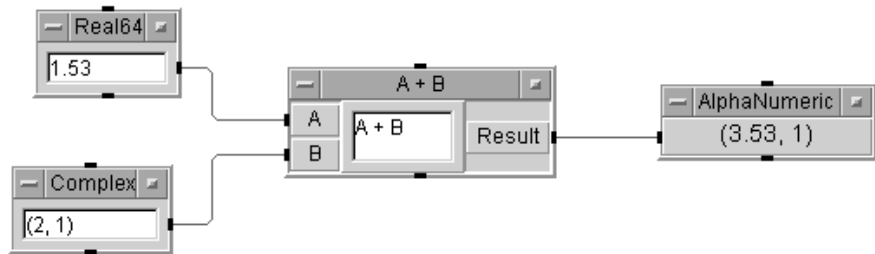

Figure 54 Using Data Types
- 5 Add an AlphaNumeric object by selecting **Display** \Rightarrow **AlphaNumeric**. Connect the objects as shown in Figure 54. Type in the value 1.53 in the data entry field of the Real64 Constant object and the complex value (2,1) in the Complex object. Run the program and you should get the result shown in Figure 54.